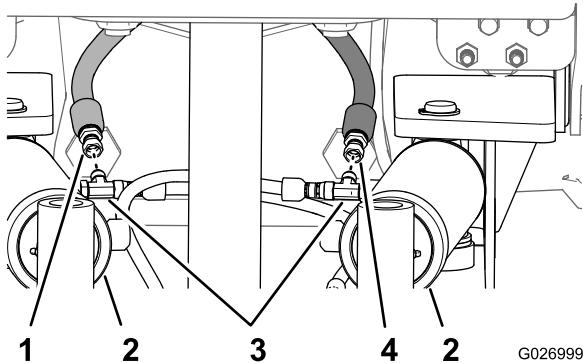

Figure 16
2. Connect the left pivot-cylinder hose to the T-fitting at the left pivot cylinder (Figure 16) and torque the swivel nut of the hose to 21 to 28 N·m (15 to 21 ft·lb).
3. Connect the right pivot-cylinder hose to the T-fitting at the right pivot cylinder (Figure 16) and torque the swivel nut of the hose to 21 to 28 N·m (15 to 21 ft·lb).
4. Rotate the T-fittings back and up approximately 60° (Figure 16) and torque the swivel nuts for the T-fittings to 32 to 39 N·m (23 to 29 ft·lb).